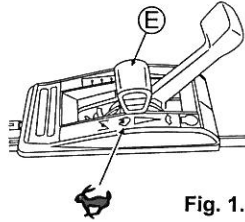

Fig. 1.
2 Set Throttle lever (E) to "START" to start mowing. (See Fig. 1.)